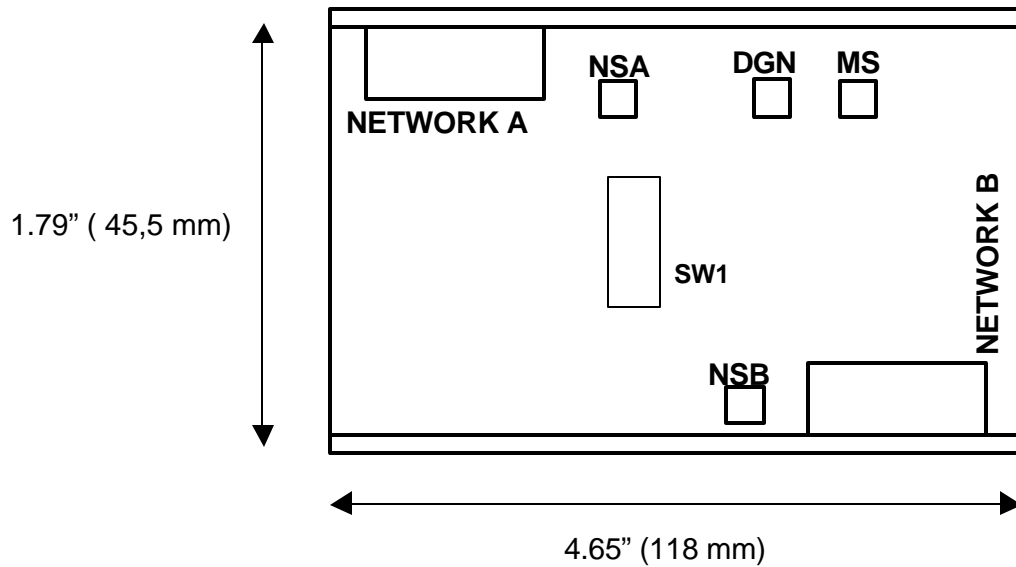
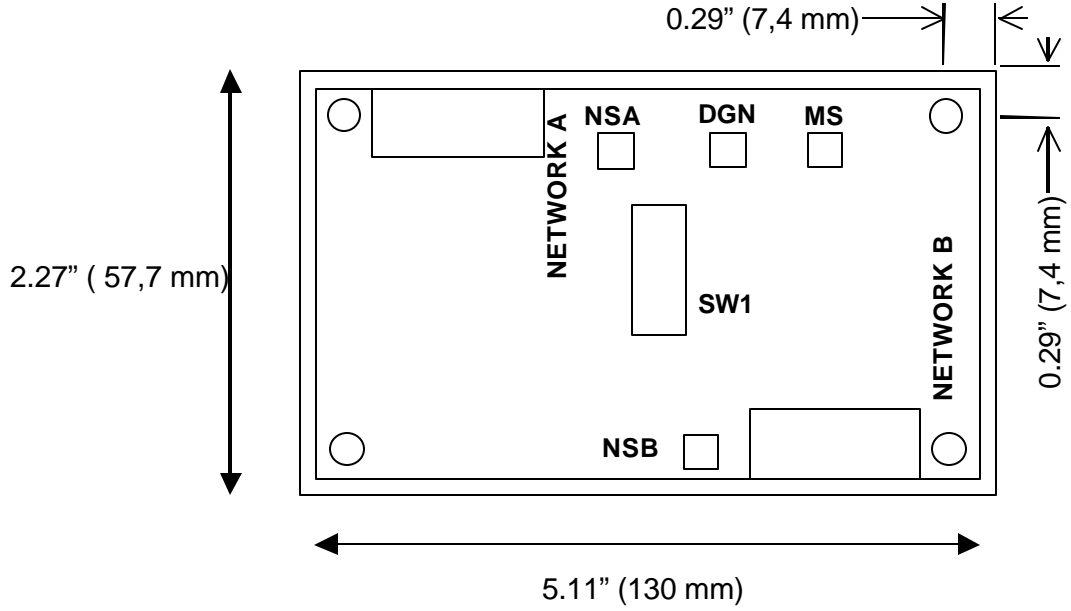

Figure 5-1 WRC-CANX-DIN CAN-Bus Extender
Figure 5-2 WRC-CANX-NEM CAN-Bus Extender
The WRC-CANX-XX Multiplexer has four (4) LED's that provide visual status information to the user about the product and the DeviceNet network. See Figure 5-1, Figure 5-2 Table 5-3 and Table 5-4.